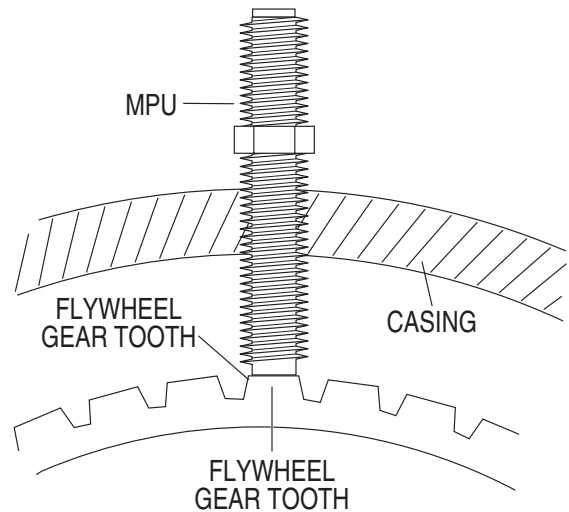

Figure 79. Gear Tooth MPU Contact
5. Reinstall the MPU sensor back into the sensor plate. Continue screwing the MPU sensor clockwise until contact is made with the flywheel gear tooth (Figure 79).